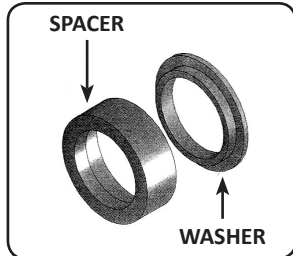

fig. 1
The enclosed locker contains two small washers in addition to the normal Lock-Right parts described in the installation manual. They must be used with your locker whether you have a C-clip or a non-C-clip differential. If you have a non-C-clip differential, then simply assemble the washers onto the spacers using grease to keep them together and follow the instructions in the installation guide treating the washer/spacer assembly as one piece, (fig. 1). If the locker is being installed in a C-clip differential, follow the directions below in addition to the installation manual.
- 5:** Assemble the other washer onto the spacer using grease to keep them together and continue with the instructions in the manual, treating the washer/spacer as one piece (fig. 1)